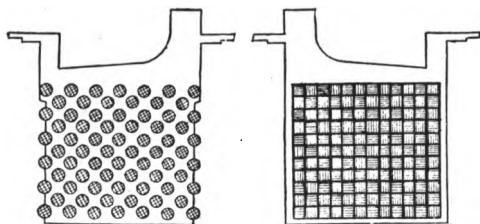

FIG. 216.—PLATES OF LEAD STORAGE CELL
**240. Lead Storage Cell.** In the common lead type of storage cell the two plates are made of lead framework, into which a paste of lead oxide has been forced (Fig. 216). One of these is made the cathode and the other the anode, in a solu-